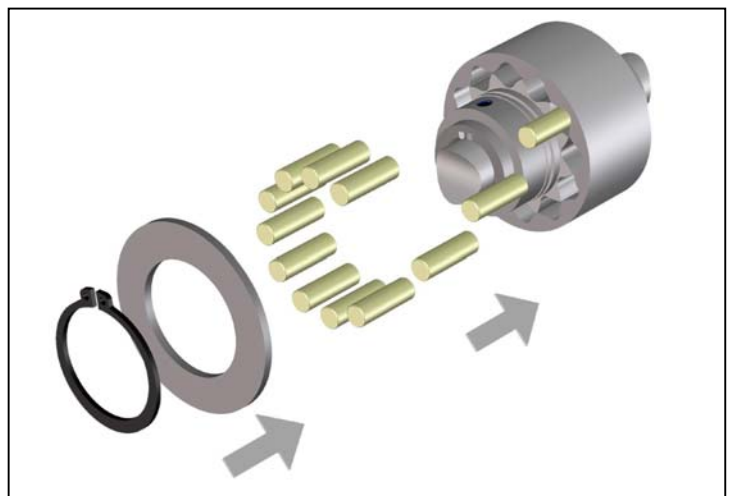

Fig. 9
- Push back the circlip and the cover ring (Fig 9).
- Shift the cover ring towards the housing and fix its position with the circlip in the groove of the hub (Fig. 9).